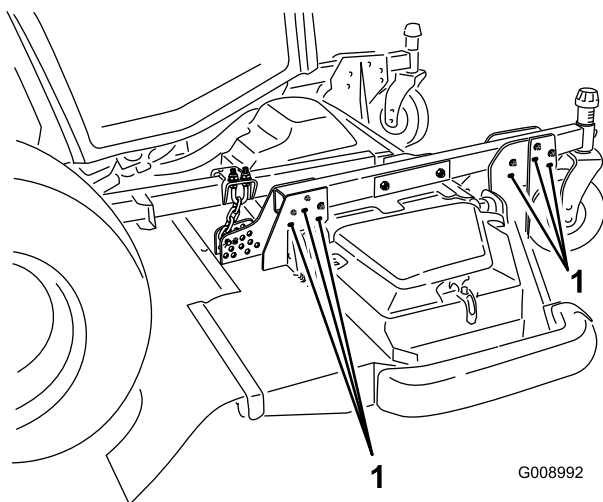

Figure 26
- To attain the 5 to 6 inch (102 to 153 mm) height of cut settings, remove the mounting bolts securing the deck hanger brackets to the height of cut castor arms and remount the deck hanger brackets to the height of cut castor arms using the lower set of holes (Figure 26).